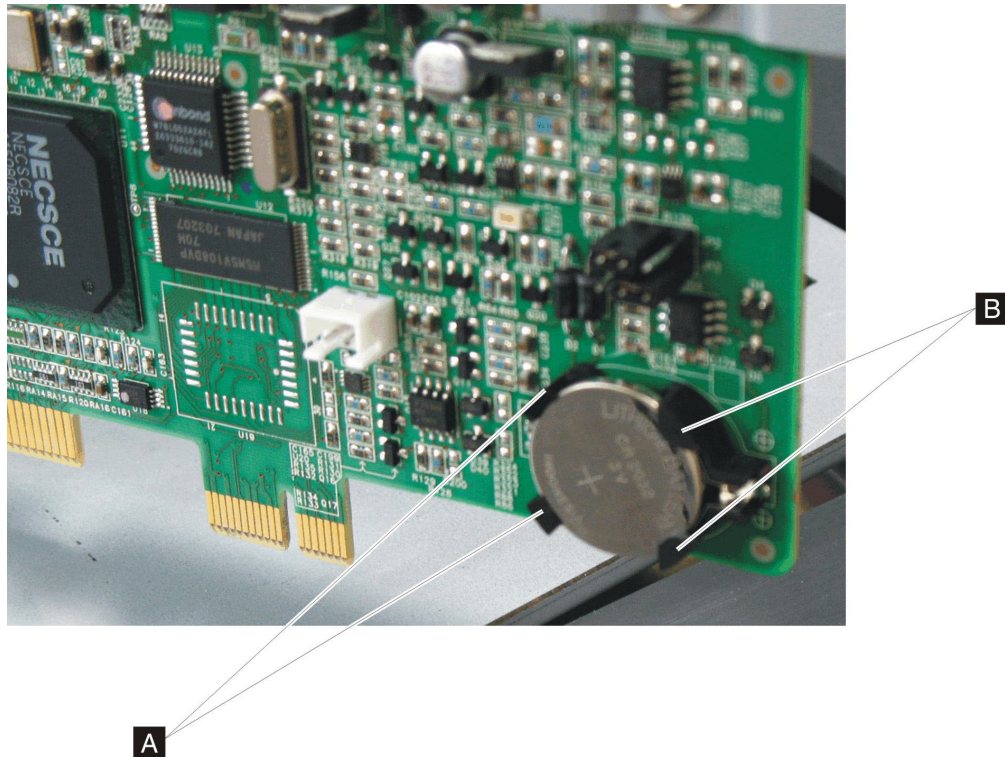

Figure 36. Removing the riser battery
2. Using the tip of a screwdriver, *carefully* lever the battery out from under the battery socket's short tabs (**A** in Figure 36 on page 50, toward the rear of the riser card).
1. Insert one edge of the battery (positive side UP) under the battery socket's longer tabs (**B** in Figure 36, toward the front of the riser card).